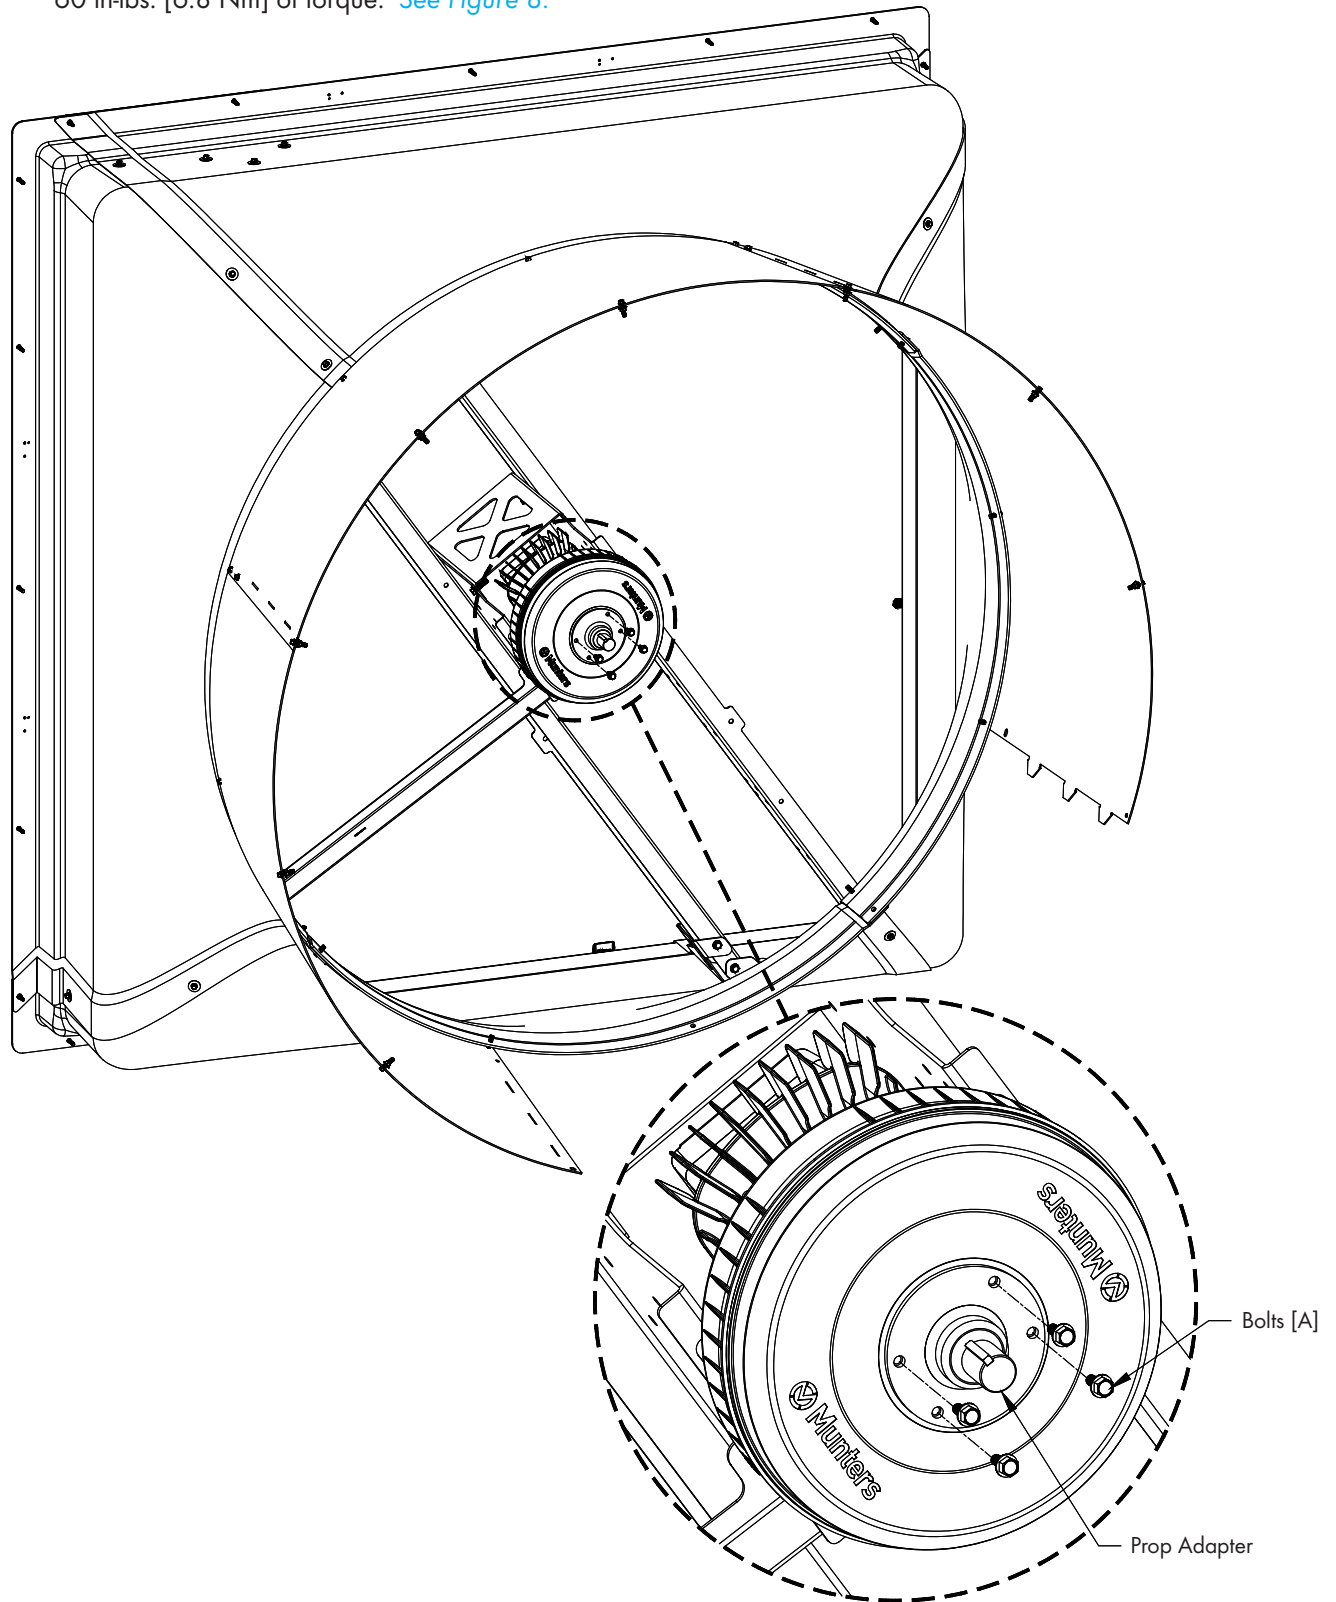

Figure 8
Attach the Prop Adapter removed in Step 5 to new Motor/Drive using (4) new Bolts [A]. Tighten Bolts to 60 in-lbs. [6.8 Nm] of torque. See Figure 8.